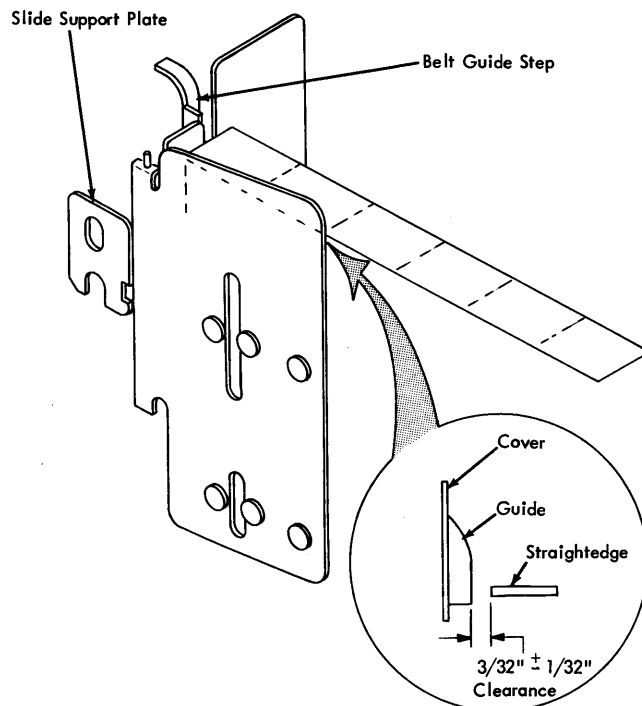

Figure 14. Tractor Door Opening Limit
2. Adjust the slide support plate to limit the tractor door open position. Place a straight edge against the belt-guide step perpendicular to the tractor guide plate as shown in Figure 14. Adjust the slide support plate to obtain $\frac{3}{4}$ " \pm $\frac{1}{4}$ " clearance between the door and the straight edge. Be sure to maintain proper belt tension when tightening the plate holding nut.